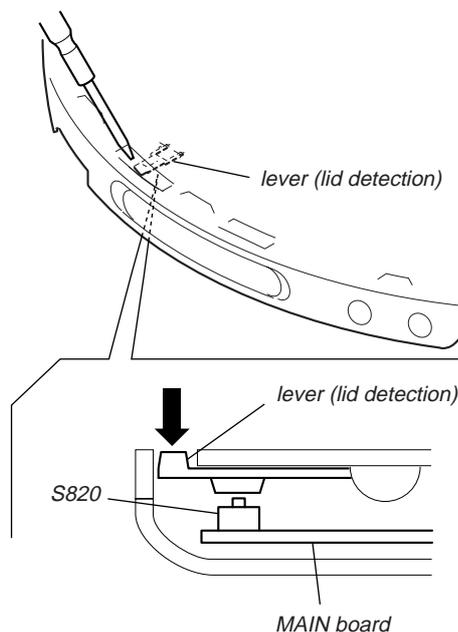

Fig. 1 Method to push the S820
2. With a disc not set, turn on the S820 with a screwdriver having a thin tip as shown in Fig.1.